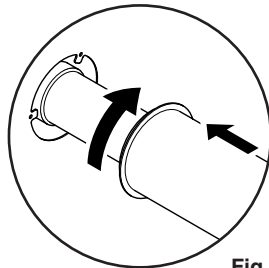

Fig. 27
4. Engage the bayonet slots of the air duct over the location lugs on the back plate opening and press and turn clockwise to secure the air duct to the back plate (Fig. 27).